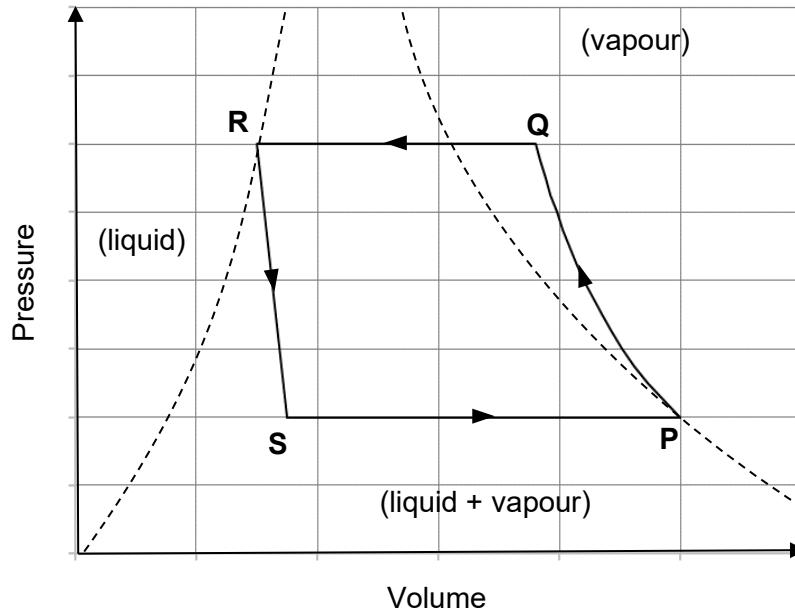

Fig. 8.1
Fig. 8.1 is a pressure vs volume graph showing the refrigerant cycling through four states P, Q, R and S. The four phases of the cyclic process are evaporation, condensation, compression and throttling (pressure releasing).
- (a)** Using the information provided in Fig. 8.1, match each phase in the cycle with its description in the chart below. P→Q has been matched.
- (c)** By referring to Fig. 8.1, identify the state (P, Q, R or S) at which the refrigerant is a saturated vapour, and another at which it is a saturated liquid.